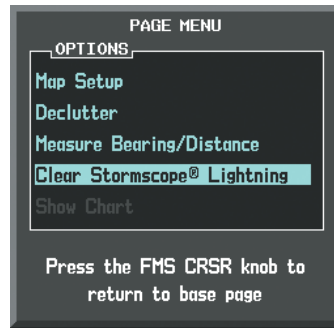

Figure 6-104 Navigation Map Page Options Menu
- 2) Select 'Clear Stormscope Lightning' (Figure 6-104).